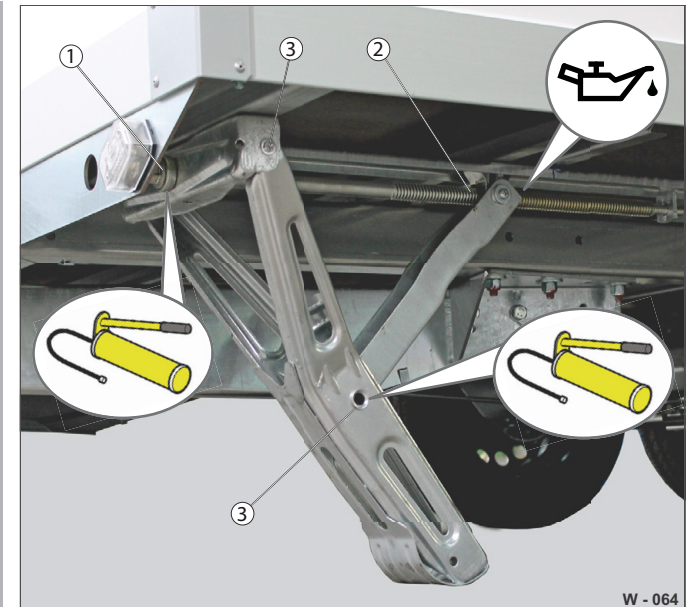

Fig. 60 Corner legs: Lubrication points
The open spindle (Fig. 60 /2) must not be lubricated with grease! Grease hardens at low temperatures - may lead to malfunction.
- Drip a little machine oil onto the open spindle (Fig. 60 /2).
- Lubricate the bearing point on the square neck (Fig. 60 /1) and bearing point (Fig. 60 /3) on the outside.